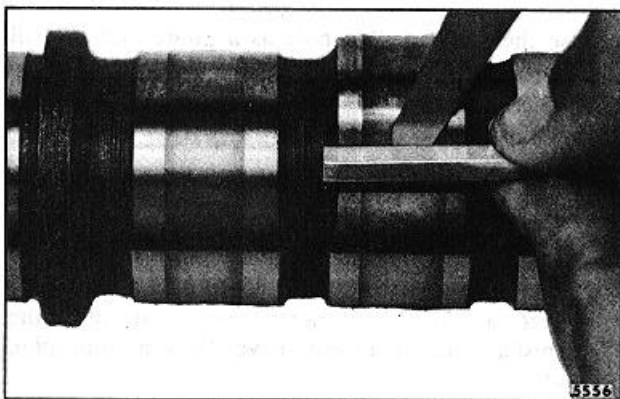

Fig. 8. Checking Cam Lobe Wear
1. With a tapered leaf set of feeler gages (.0015 " .0100 ") and a piece of square hard material 1/8" X 3/8 " X 1 " measure the flat on the injector rise side of the cam lobes (Fig. 8).